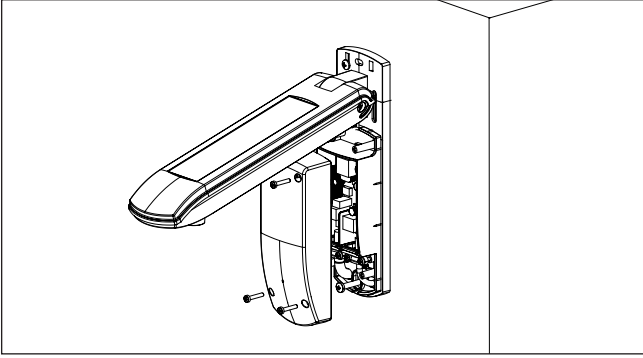

Fig. 4 Wall mounting
- Attach the weather station to a suitable substructure using the included screws and dowels as shown (Fig. 4).